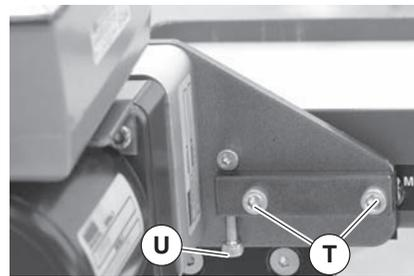

Figure 9
1. Loosen two (2) mounting package mounting screws (Figure 9, item T).